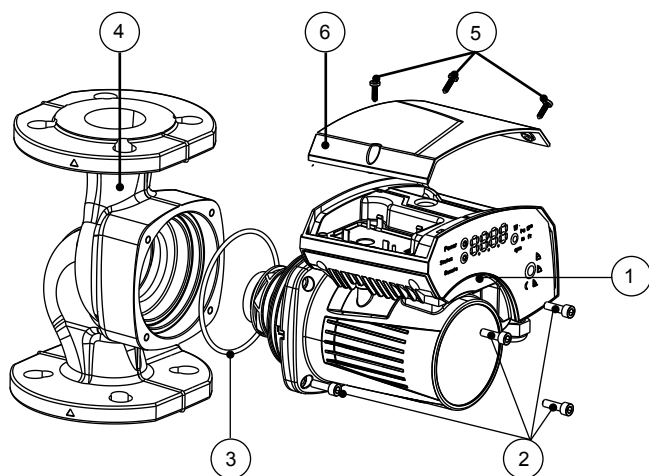

Figure 2: Change the position of the pump head for 1 PH
1. Open the terminal box cover removing the screws (5). Refer to figures 2 & 3 on page 7. Use control screwdriver described under section 4.2 to access terminal blocks.